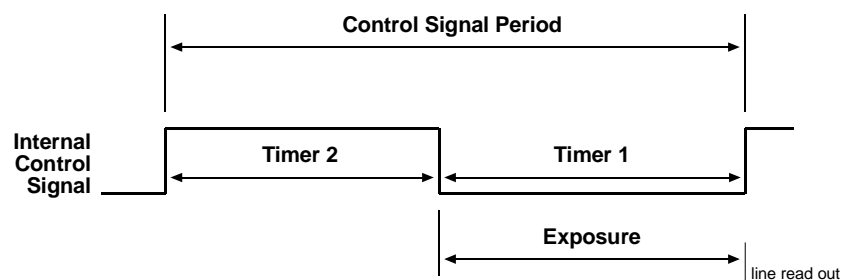

Figure 3-7: Free-run, Programmable Mode
- In **free-run, programmable mode**, the pixels are exposed and charge is accumulated when the internal control signal is low. The line is read out and transferred on the rising edge of the internal control signal. See Figure 3-7.